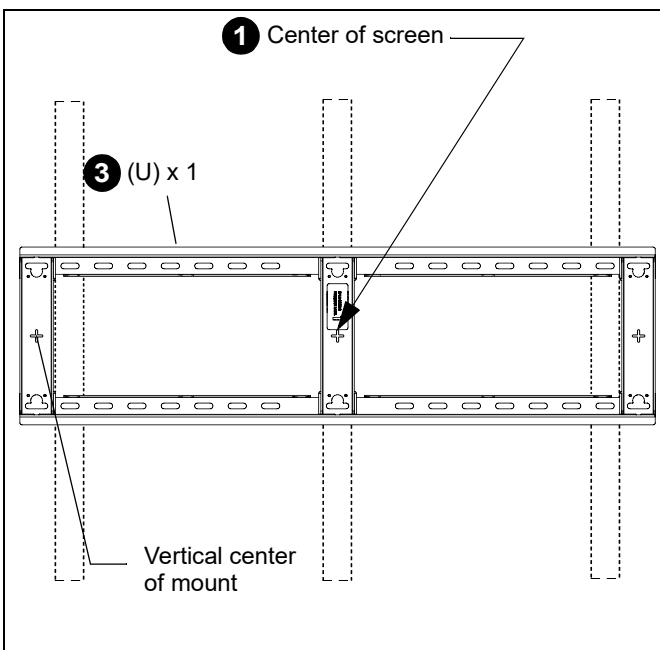

Figure 1
3. Line up the six slots on mount (U) with the three studs previously identified. (See Figure 1)